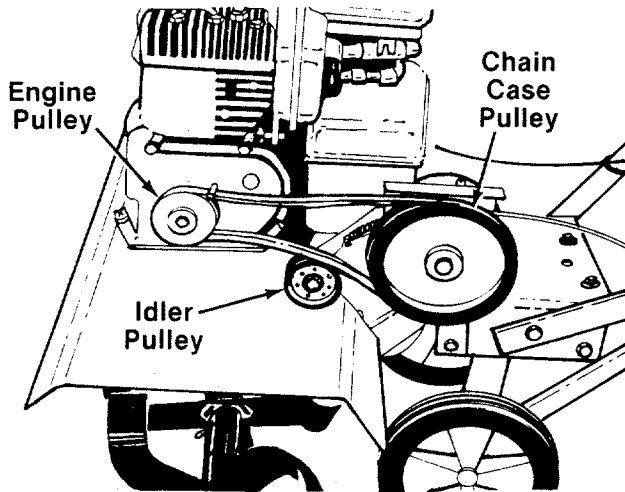

FIGURE 24.
4. To reassemble the new belt, first place belt over engine pulley. Be sure belt is inside two pins at engine pulley. See figure 24.
5. Belt must be over top of idler pulley. See figure 24. Slip end of belt over the chain case pulley.